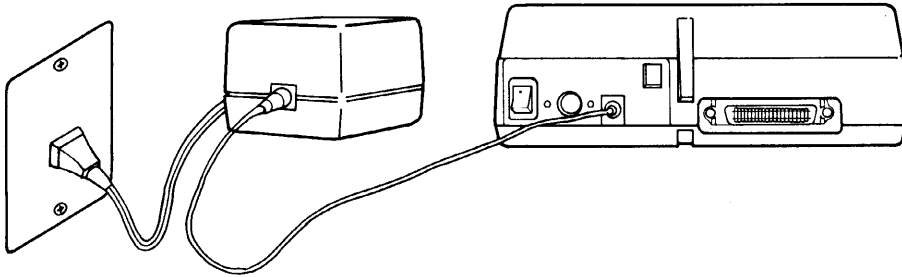

Figure 4. Power Supply Connections
2. Then connect the power cable from the AC Adapter to the Color Graphic Printer's power supply AC ADPT jack (see Figure 4).